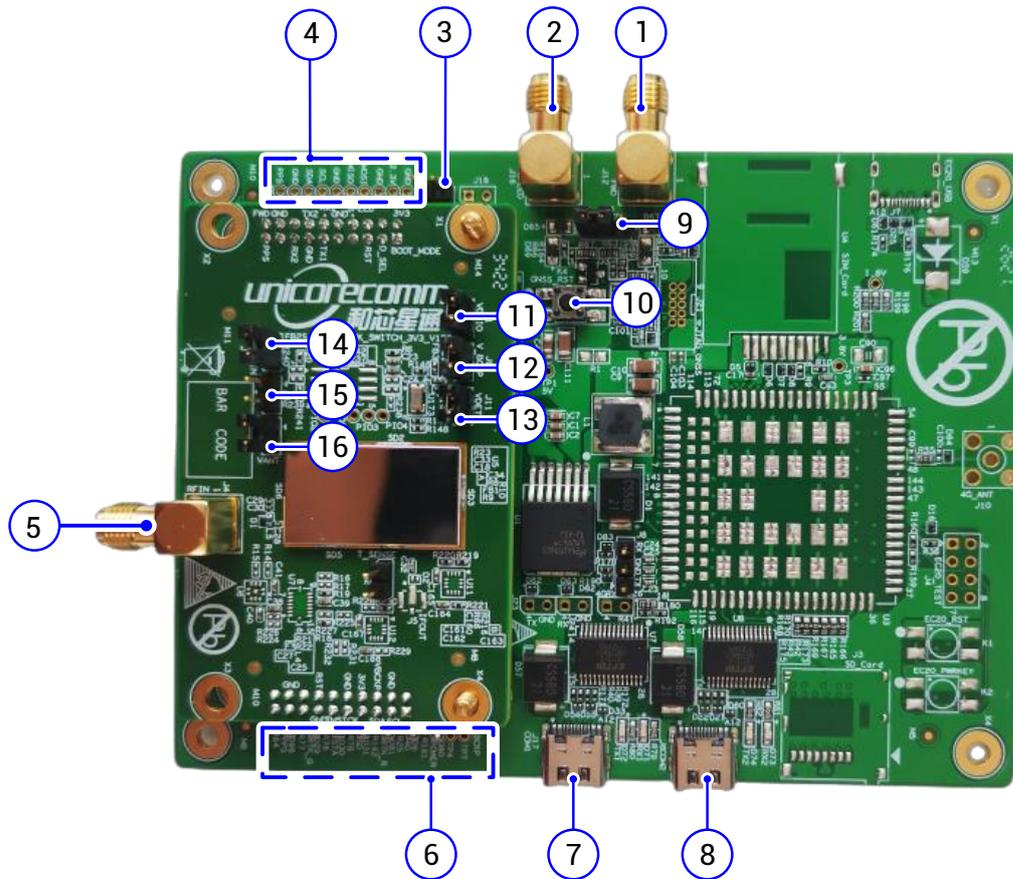

Figure 3-1 EVK
The EVK supports two Type-C USB2.0 interfaces J17 and J6. See Figure 3-1 (7) and (8). USB1 and USB2 respectively correspond to UART1 and UATR2 of the GNSS adapter. Both of the two UARTs can be used to communicate with the host, but only UART1 can be used for firmware upgrade.